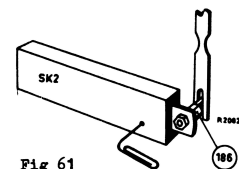

Fig 61
The adjusting screw on the slider of SK2 should fall into the hollow of control bracket 184, see fig. 61.
Insert a lock pin of about 1.5 mm thickness through the hole in the switch, see fig. 61.
N.B. : Some apparatus are not provided with an adjustment screw. With these apparatus the switch is adjusted by bending it, see fig. 61.